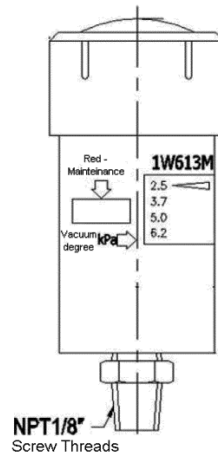

Figure 1-3 Indicator
- (b) A vacuum actuated indicator (See Figure 1-3) is attached on the side of the air filter assembly. Its gives you an indication of restricted airflow through the air filter. The quantity of airflow shows on the indicator at three different levels. When the light is in the green area, the air filter is good. If the light is in the yellow area, you need to clean or replace the filter cartridge. If the light is in red area, do not operate the engine. Replace or clean the filter cartridge. Examine the intake screen and cartridge area. Make sure that they are clean.